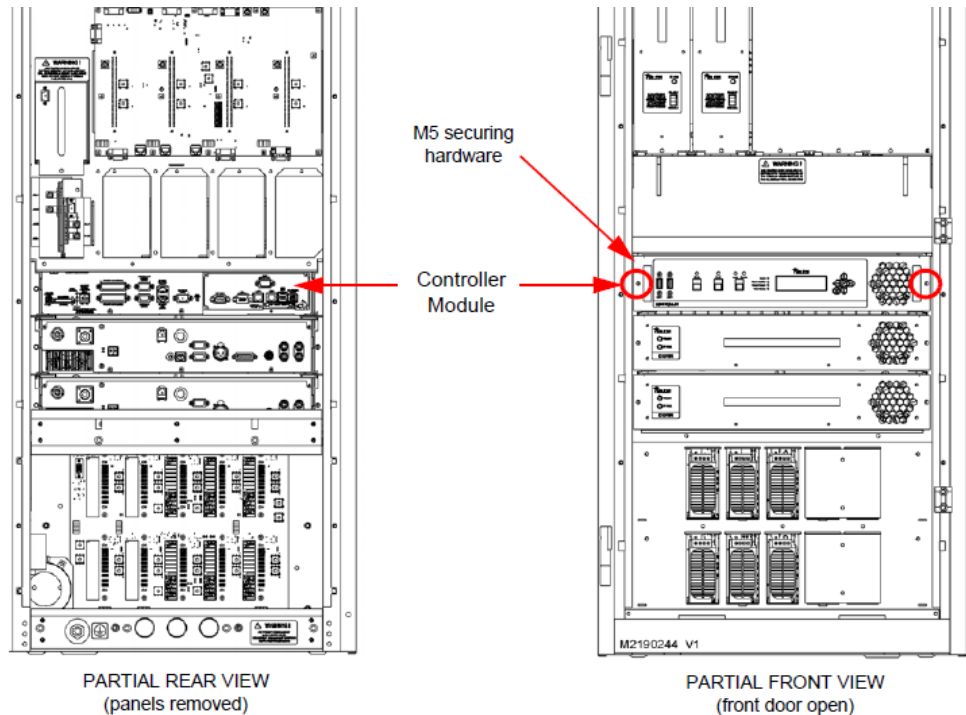

Figure 1: Front and rear view of the transmitter (GV5 shown as reference)
- (c) From the front of the transmitter, open the front door (left most for multi-door transmitters) and remove and retain the two (2) M5 Phillips head screws that secure the Controller Module to the transmitter (see Figure 1). Remove the module from the transmitter.
- (b) Using retained hardware from step 3 (c), re-install the controller and reconnect the mating connectors. Refer to Figure 1 if necessary.